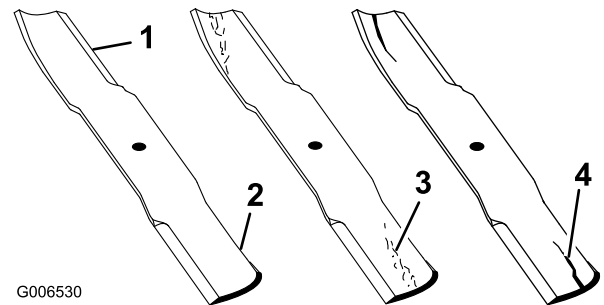

Figure 66
1. Inspect the cutting edges (Figure 66). If the edges are not sharp or have nicks, remove and sharpen the blades. Refer to Sharpening the Blades.
2. Inspect the blades, especially the curved area (Figure 66). If you notice any damage, wear, or a slot forming in this area (Figure 66), immediately install a new blade.